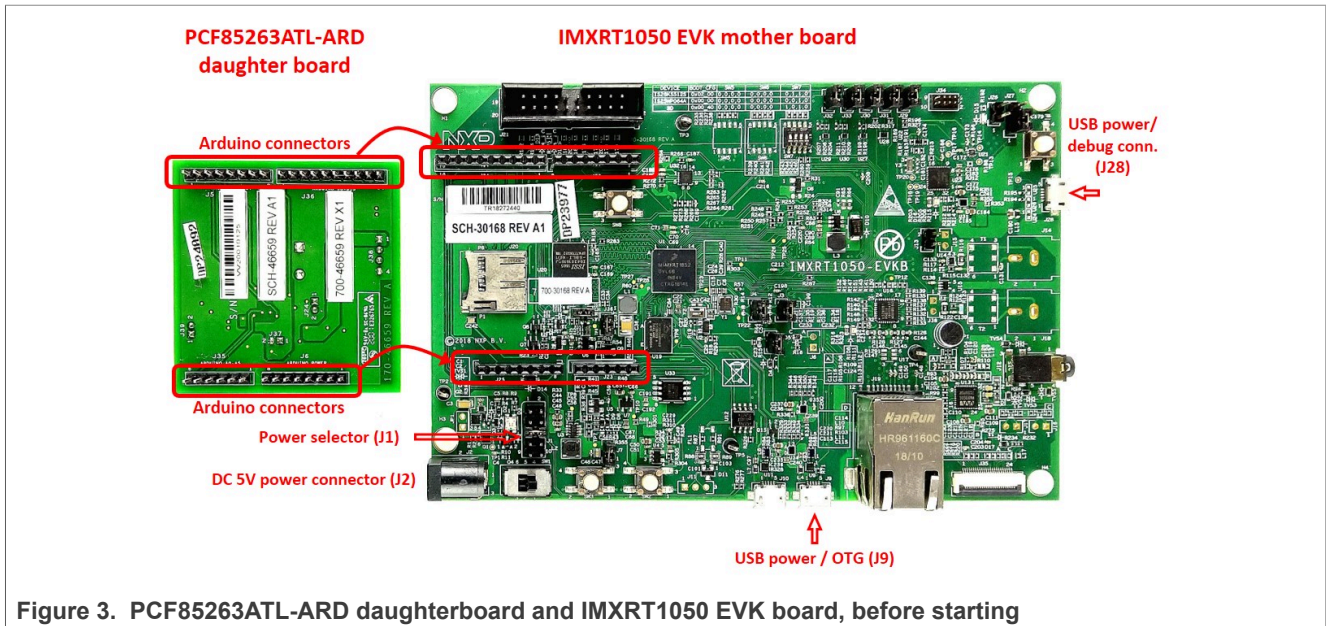
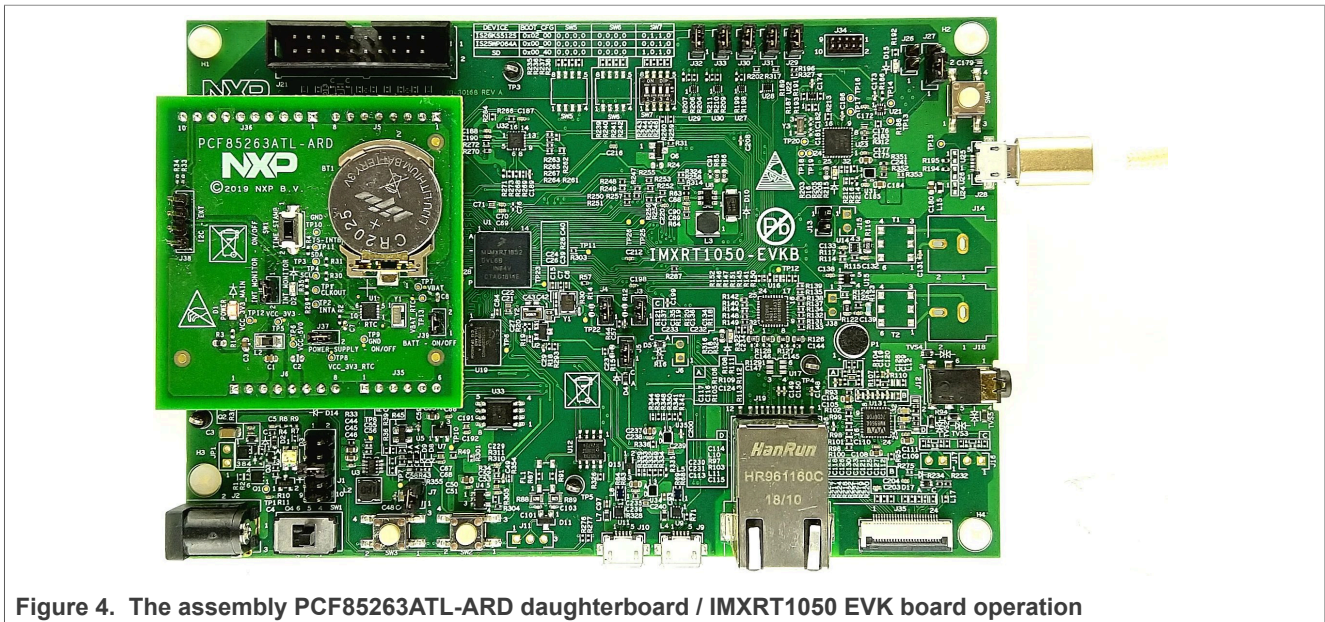

Figure 3. PCF85263ATL-ARD daughterboard and IMXRT1050 EVK board, before starting
Figure 4. The assembly PCF85263ATL-ARD daughterboard / IMXRT1050 EVK board operation
Figure 3 shows the required hardware for operation of the PCF85263ATL-ARD daughterboard with IMXRT1050 EVK. The following items are necessary:
2. Insert the PCF85263ATL-ARD daughterboard on the Arduino connector of the EVK (see Figure 3 and Figure 4).
Figure 4 shows the boards during operation.